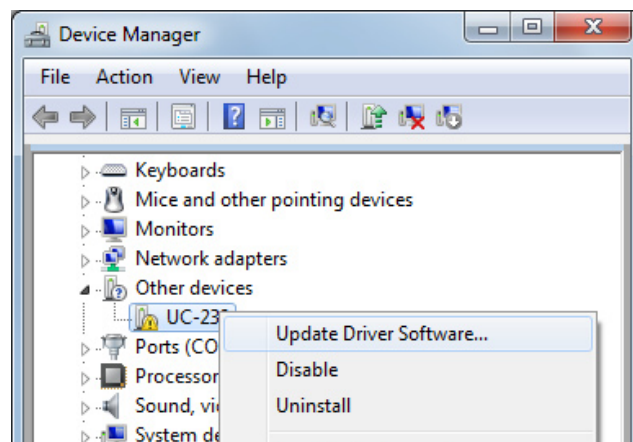

Fig. 11. Device Manager - Update Driver Software.
- 3) Right click on the other device (UC-232 in this example) to bring up a menu as shown in Figure 11. From the displayed menu select “Update Driver Software...”